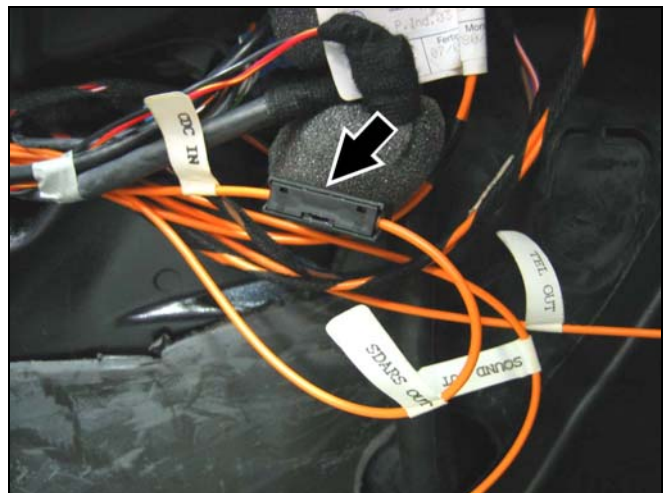

Figure 14
5. At the exposed transmission tunnel area, find the MOST couplings and configure the MOST ring (Figure 14) according to Figure 39.